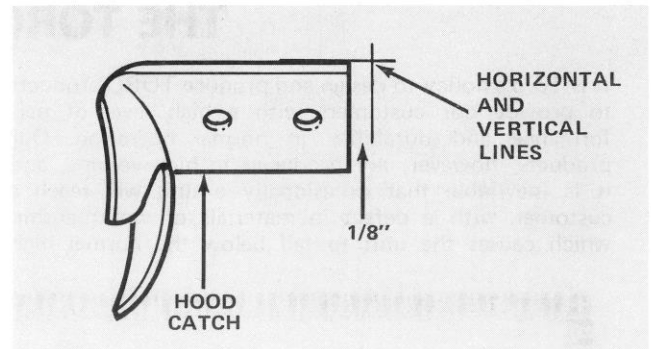

Figure 8
4. Position hood catch 1/8 inch away from vertically scribed line and flush with horizontal line (Fig. 8). Using hood catch as a template, mark holes on side of Groundsmaster hood (Fig. 8).